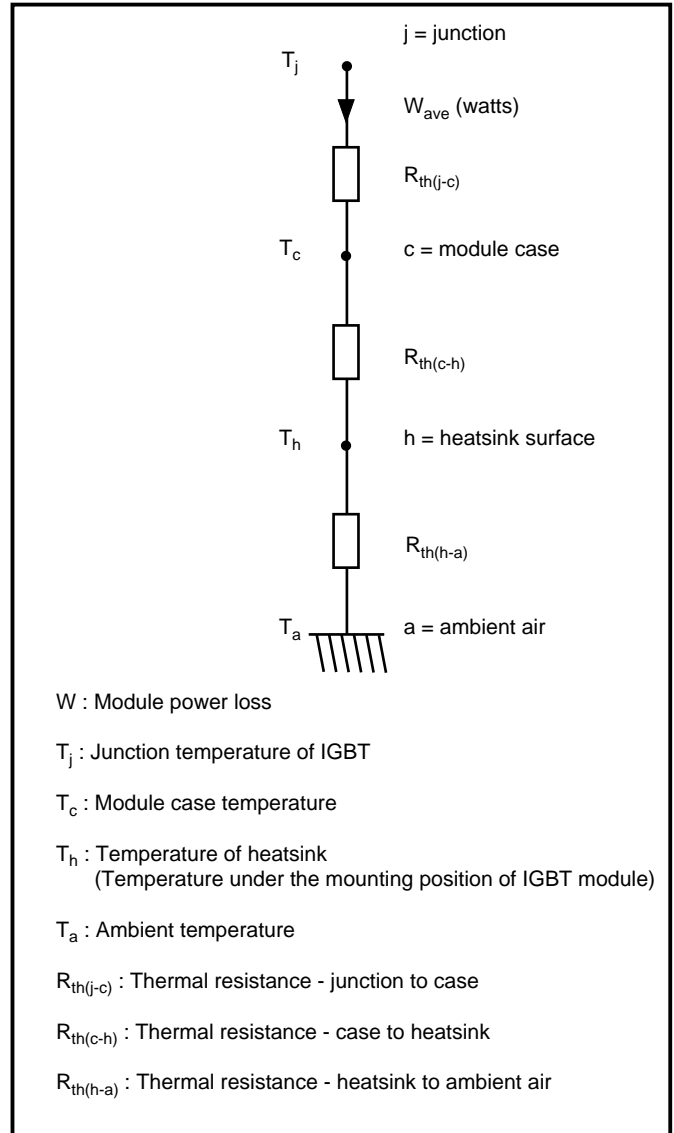

Fig. 2 Equivalent circuit
An equivalent circuit can be drawn to represent the heat conduction in a semiconductor device, in this case a single IGBT chip in a module. For the equivalent circuit it is assumed that the power loss (W) is generated in the 'virtual junction' (J) of the IGBT die. The equivalent circuit used is shown in figures 2 and 3.